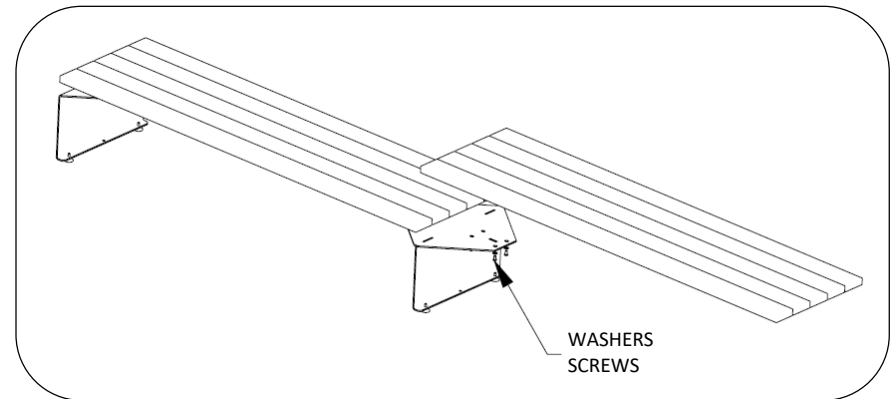

Fig. 3 – adjoining legs assembly
7. Attach next bench segment and support, continuing until bench run is complete. See Fig. 3.